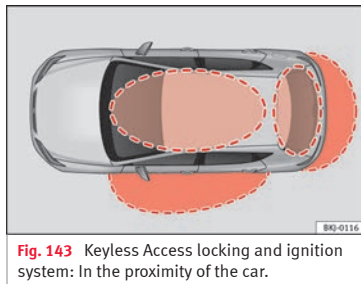

Fig. 143 Keyless Access locking and ignition system: In the proximity of the car.
Keyless Access is a key-free locking and ignition system to unlock and lock the vehicle without actively using its key. To do this, all that is required is to have a valid vehicle key in the detection area where you are attempting to access the vehicle » Fig. 143 and to touch one of the sensor surfaces on the door handles » Fig. 144 » ❶.
If a valid key is located in the proximity of the car » **Fig. 143**, the Keyless Access locking and starting system gives the key entry as soon as one of the sensor surfaces on the driver door handle is touched. The following features are then available without having to use the vehicle key actively:
When the vehicle is locked, the rear lid automatically unlocks on opening if there is a valid vehicle key in the proximity » **Fig. 143**.